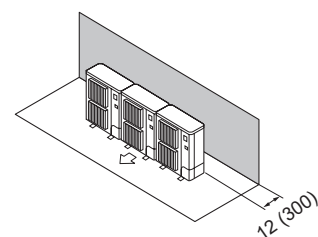

Fig. 2-11
- ① Obstacles at rear (Fig. 2-11)